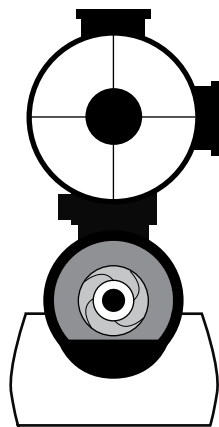

Figure 8
2. Looking through the bore from the action end, center the round target downrange so that it is floating in the center of the bore, then adjust the elevation and windage adjustments until the reticle is centered on the target while the target is still centered in the bore. See Figure 8.